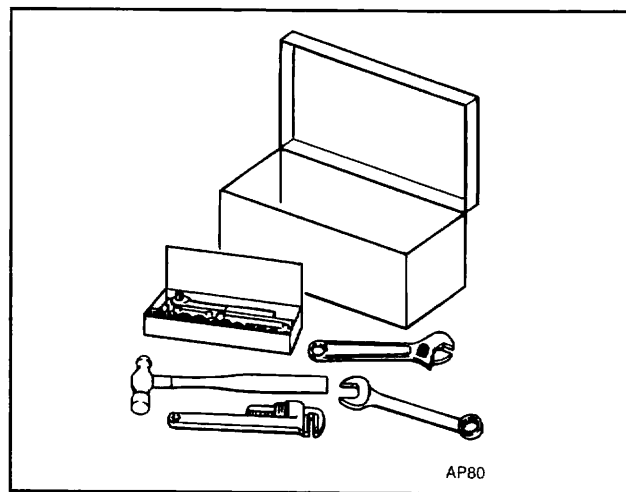

Figure 6. Ordinary Set of Mechanics Tools
- Ordinary set of mechanics tools. See Figure 6.